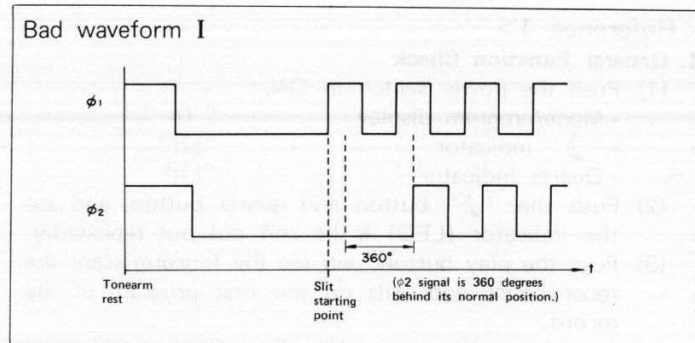

Figure 33-4
- (1) Adjust the eccentric pin so that when the tonearm is moved at uniform speed in the inward direction the $\phi 2$ signal be 90 ± 30 degrees behind the $\phi 1$ signal.
- (2) Next, check that when the tonearm is moved at uniform speed in the outward direction the $\phi 1$ signal be 90 ± 30 degrees behind the $\phi 2$ signal.
- (3) In addition, when moving the tonearm in the inward direction, the $\phi 2$ signal should rise at the center of the first pulse of the $\phi 1$ signal, as mentioned above, with regard to an output at the slit starting point.
- (4) If the waveform of output signal are as shown in Figs. 33-4 and 33-5, adjust the eccentric pin again.